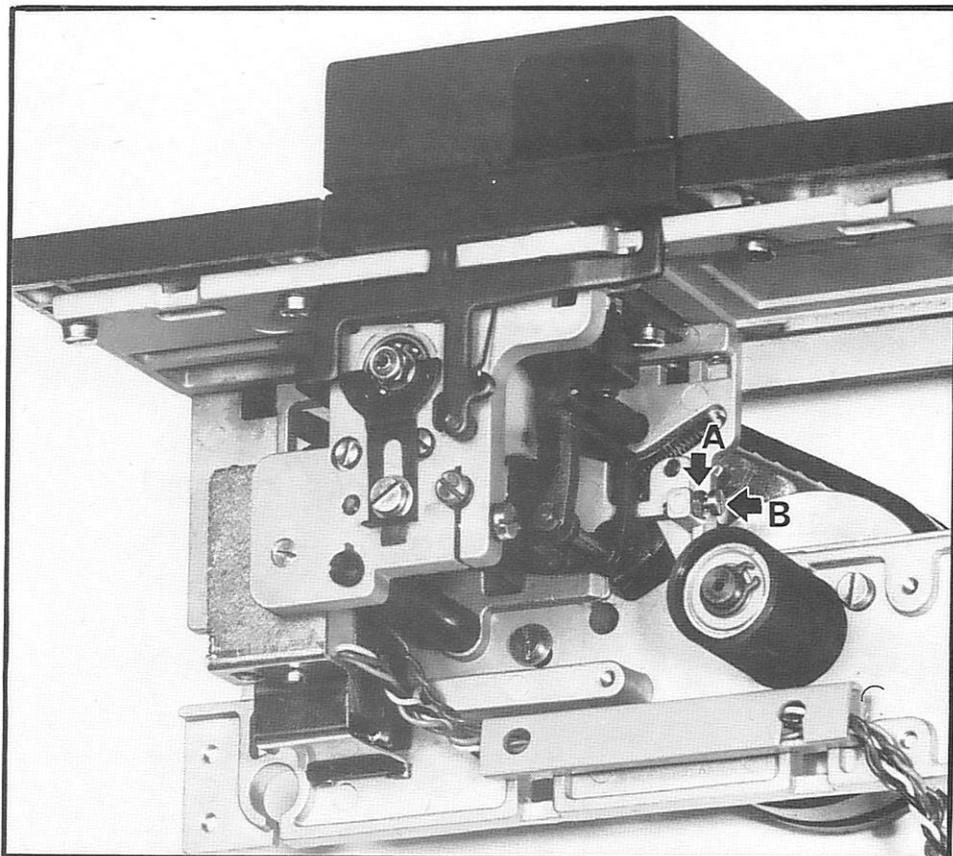

Fig. 6.17 Selector Box Positioning
- h) If the gauge does not go in or is too loose, remove the selector box and change its position slightly by loosening lock nut A and adjusting screw B (Fig. 6.17).